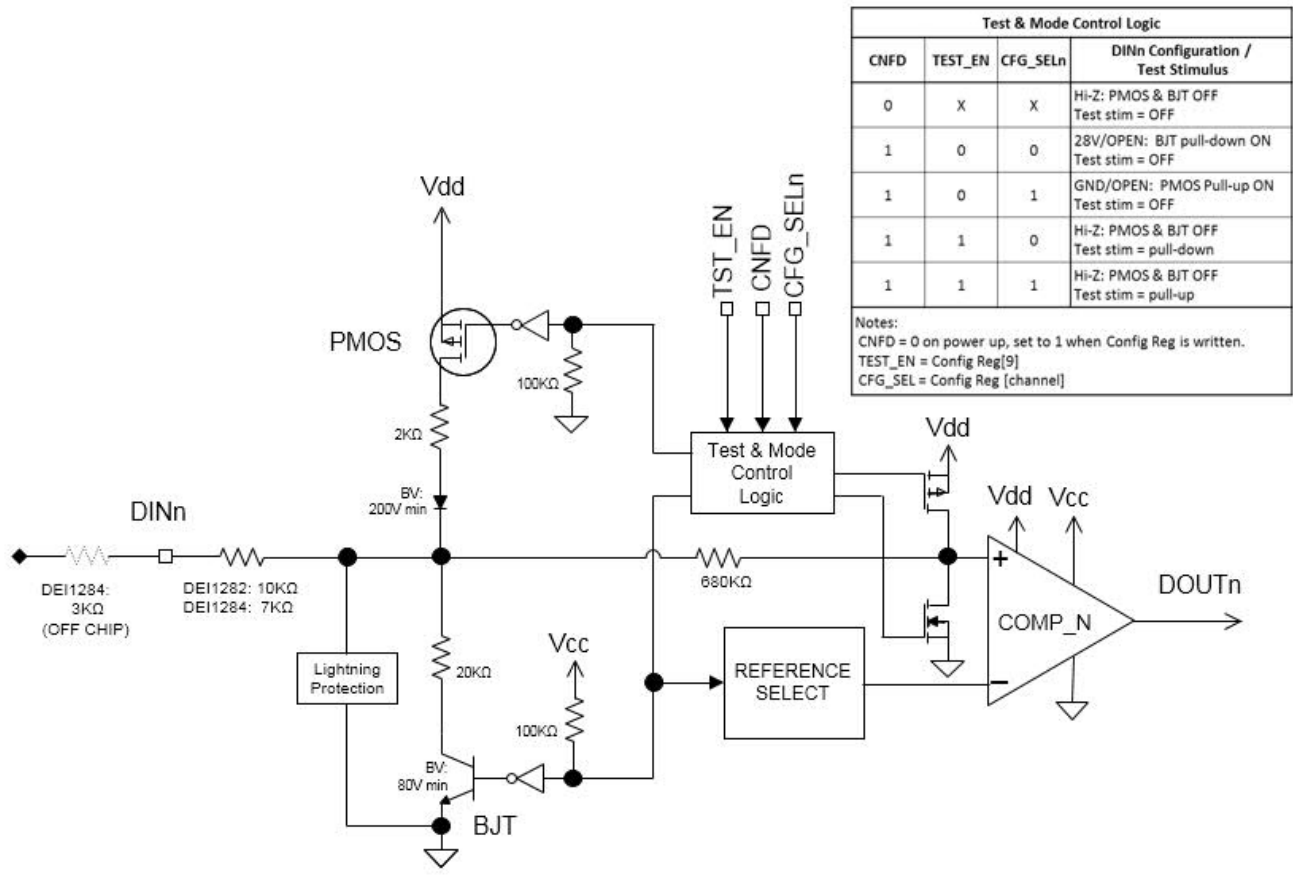

Figure 3 Discrete AFE Function Diagram
The Discrete Input Analog Front End circuit function is represented in Figure 3. Each DINn signal is conditioned by the resistor / diode network and presented to a comparator with hysteresis. When the input is configured for GND/OPEN operation, the pull-up resistor and diode are enabled and comparator threshold voltage is selected. When the input is configured for 28V/OPEN operation, the pull-down resistor is enabled and the comparator is appropriately configured. Prior to configuration (after power up) and during BIT, neither pull-up nor pull-down is enabled and the AFE presents a high impedance (Hi-Z).
Bit 9 of the Configuration Register (CR) is used to enable or disable Built-in Test (1 = BIT enabled, 0 = NORMAL). When BIT is enabled, each channel configuration bit value is used to drive a test stimulus on the respective channel comparator (see Figure 3). Thus all channels can be tested by setting the BIT mode, programming test stimulus patterns into the CR, and reading the results from the DR. The DIN inputs are placed in Hi-Impedance mode (pull up and pull down switches are OFF) during test mode, so the test does not interfere with the DIN signals. The BIT test stimulus is isolated from the DIN pin by 680K $\Omega$ .